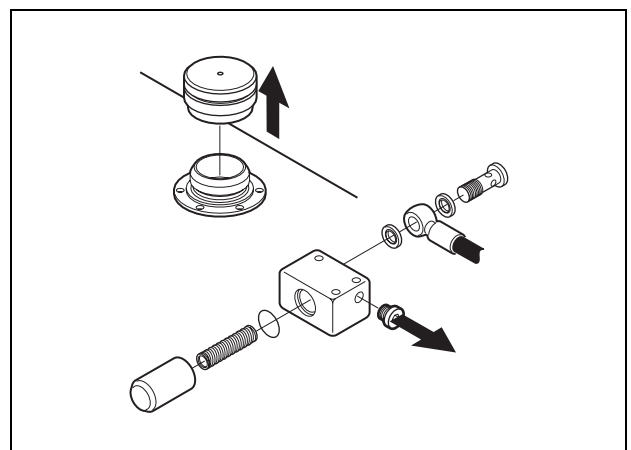

Fig. 38 Bleeding chain lubrication system
2. Remove the plug on the lubrication oil pump. *See Fig. 38.*